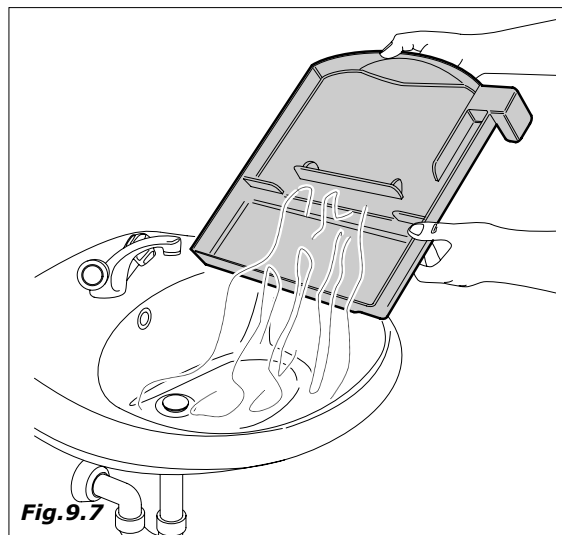

Fig. 9.7
- empty the waste liquids bin clean it and/or substitute it (Fig. 9.7).